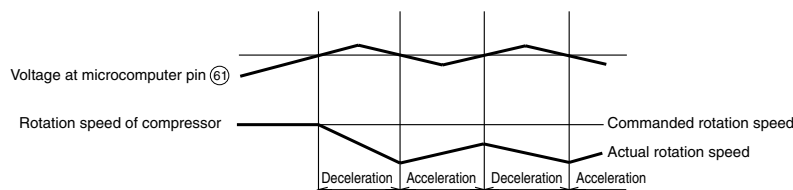

Fig. 6-3
Fig. 6-3 shows the rotation speed control. When the voltage at pin (61) of the microcomputer exceeds the set value, the microcomputer decreases the rotation speed of the compressor and reduces the load.